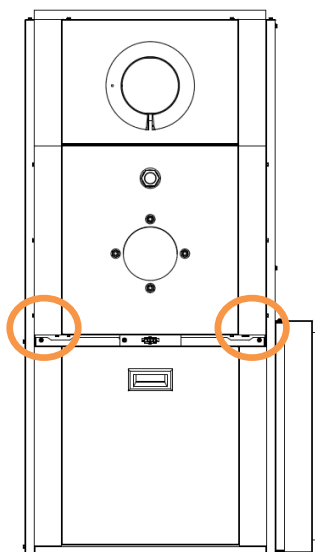

Figure 1
2) Remove the two (2) screws securing the blower door (Figure 1).